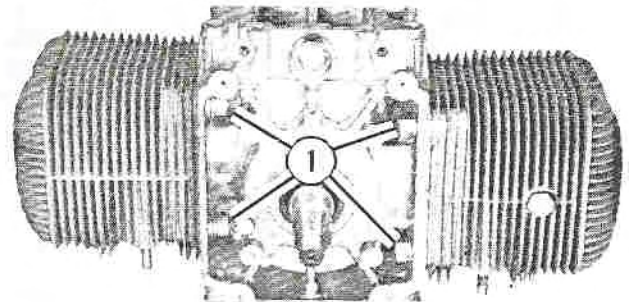

Fig. 11
5. Remove both spark plugs. Remove the cylinders from the crankcase. See Figures 11 and 12.